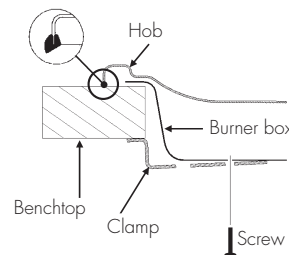

Fig. 1B
3. **A rubber seal** – has been provided for only. This is to be applied around the edge of the hob (Fig. 1B). Note: The rubber seal has had talc powder applied to its surface which should be wiped off with a damp cloth after the unit has been installed.
4. **Pull down clamps** – (Square cooktops) are supplied. When the appliances is in position attach the clamps to the underside of the benchtop and lightly tighten (Fig. 1B).